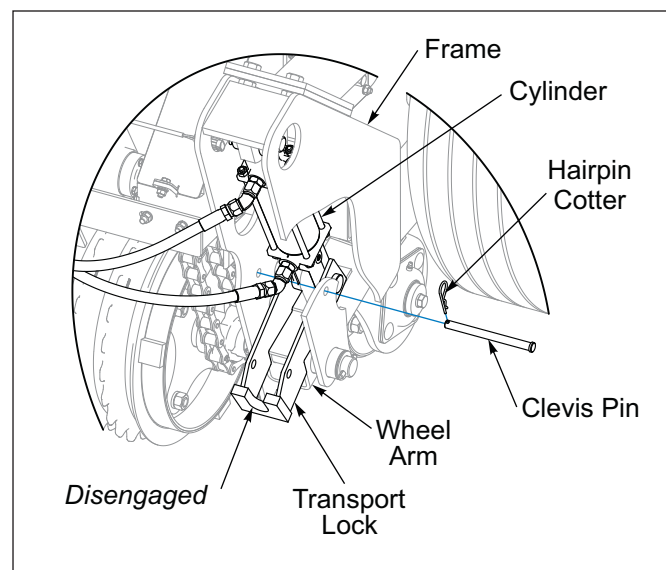

Figure 3-7: Transport Lock Disengaged
5. Disengage each Transport Lock so that the Transport Lock rests on the Wheel Arm. Insert the Clevis Pin in front of the Transport Lock. **See Figure 3-7.**
1. Raise the Seeder fully to extend the Hydraulic Lift Cylinders and rotate the Transport Locks to the stored position. Secure with the Clevis Pins and Hairpin Cotters. **See Figure 3-7.**
3. If the Transport Lock are engaged, raise the Seeder and disengage the Transport Locks. **See Figure 3-7.**